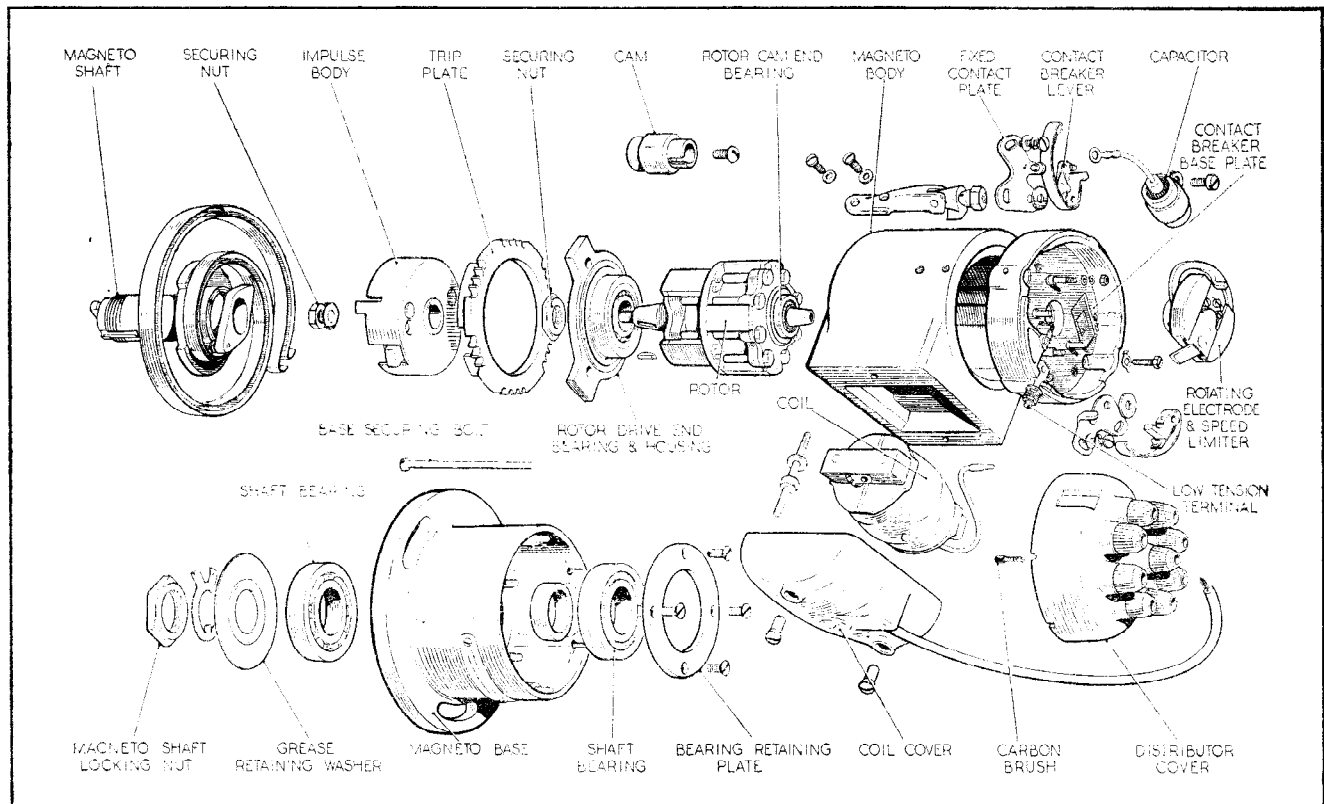

Fig. 4.
- (i) Note the arrangement of the impulse starter, see Fig. 4.